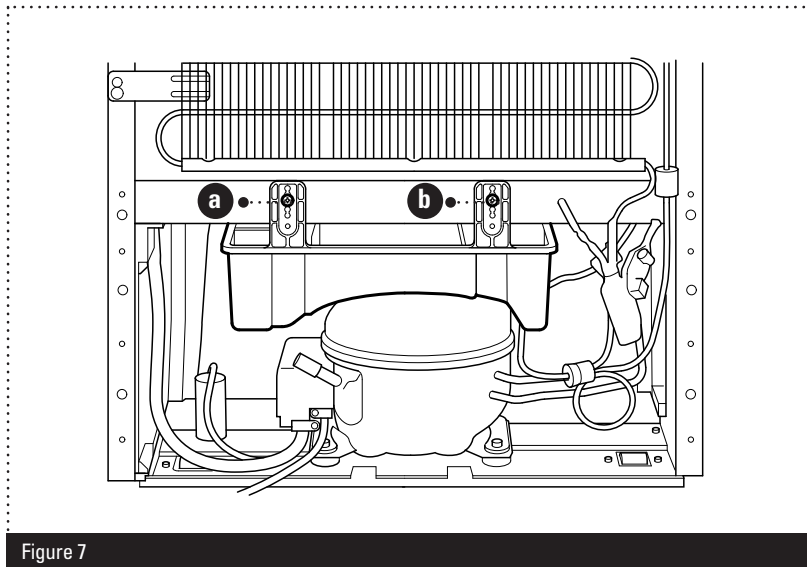

Figure 7
- 1 Remove the vaporisation container by unscrewing the 2 screws (Figure 7 **a** and **b**)